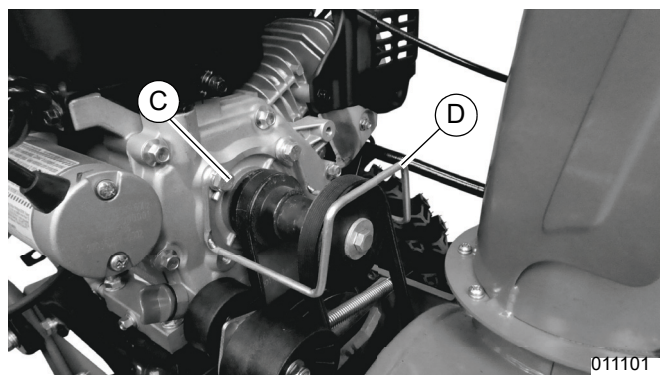

Figure 4-6. Removing Belt Guide
2. See **Figure 4-6**. Remove two bolts, lock washers, and flat washers (C) securing belt guide (D) using a 13mm wrench. Remove belt guide.